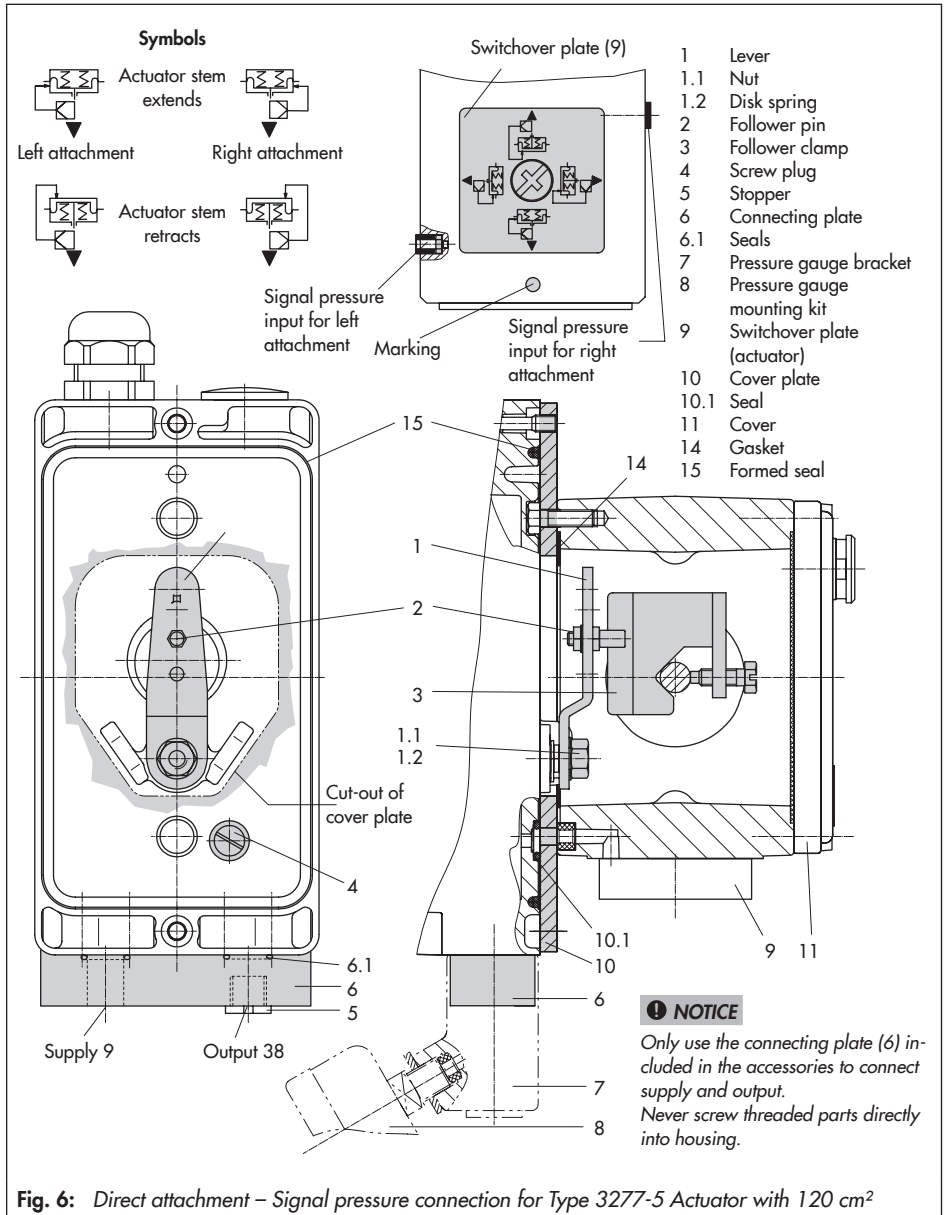

Fig. 6: Direct attachment – Signal pressure connection for Type 3277-5 Actuator with 120 cm2
##### Actuator with 120 cm2 (see Fig. 6)
1. Mount connecting plate (6) or pressure gauge bracket (7) with pressure gauges on the positioner, making sure the two seals (6.1) are seated properly.
2. Remove screw plug (4) on the back of the positioner and seal the signal pressure output (38) on the connecting plate (6) or on the pressure gauge bracket (7) with the stopper (5) included in the accessories.
3. Place follower clamp (3) on the actuator stem, align it and screw tight so that the mounting screw is located in the groove of the actuator stem.
4. Mount cover plate (10) with narrow side of the cut-out (Fig. 6, on the left) pointing towards the signal pressure connection. Make sure that the gasket (14) points towards the actuator yoke.
5. **15 mm travel:** Keep the follower pin (2) on the **M** lever (1) on the back of the positioner in the pin position **35** (delivered state).
**7.5 mm travel:** Remove the follower pin (2) from the pin position **35**, reposition it in the hole for pin position **25** and screw tight.